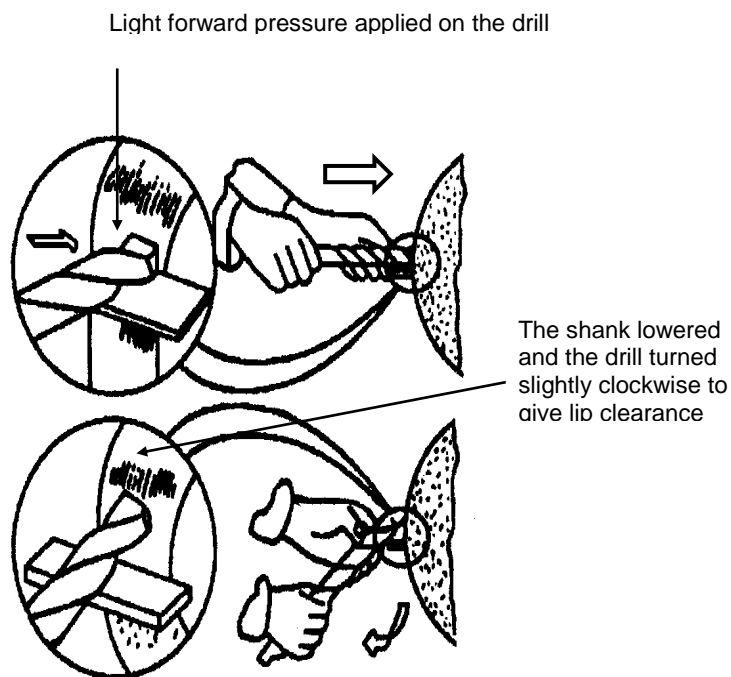

FIG 3.
- Position the fingers nearest the tip of the drill on the tool-rest and lightly touch the cutting edge of the drill onto the wheel. See Fig 3.
- Apply light forward pressure on the drill. Using the tool-rest as the point of pivot, lower the hand grasping the shank of the drill at the same time turning the drill clockwise slightly to give lip clearance. Fig 3 on previous page.